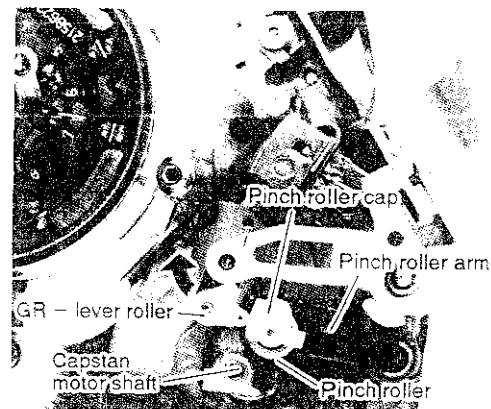

Fig. 3-10-3
- ① Remove the cassette housing (see para. 4- 1).
- ② Set the deck to loaded status. Release the load just before the pinch roller touches the capstan motor shaft (see Fig. 3-10-3).
- ③ Move the GR-lever roller in the arrow - shown in Fig. 3-10-3, and then gradually remove the pinch roller cap.
- ④ Slide the pinch roller off the pinch roller arm shaft.